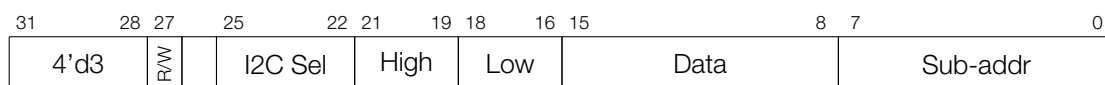

Figure 30-16. Instruction Type – I2C
**Operand Description** - see Figure 30-16